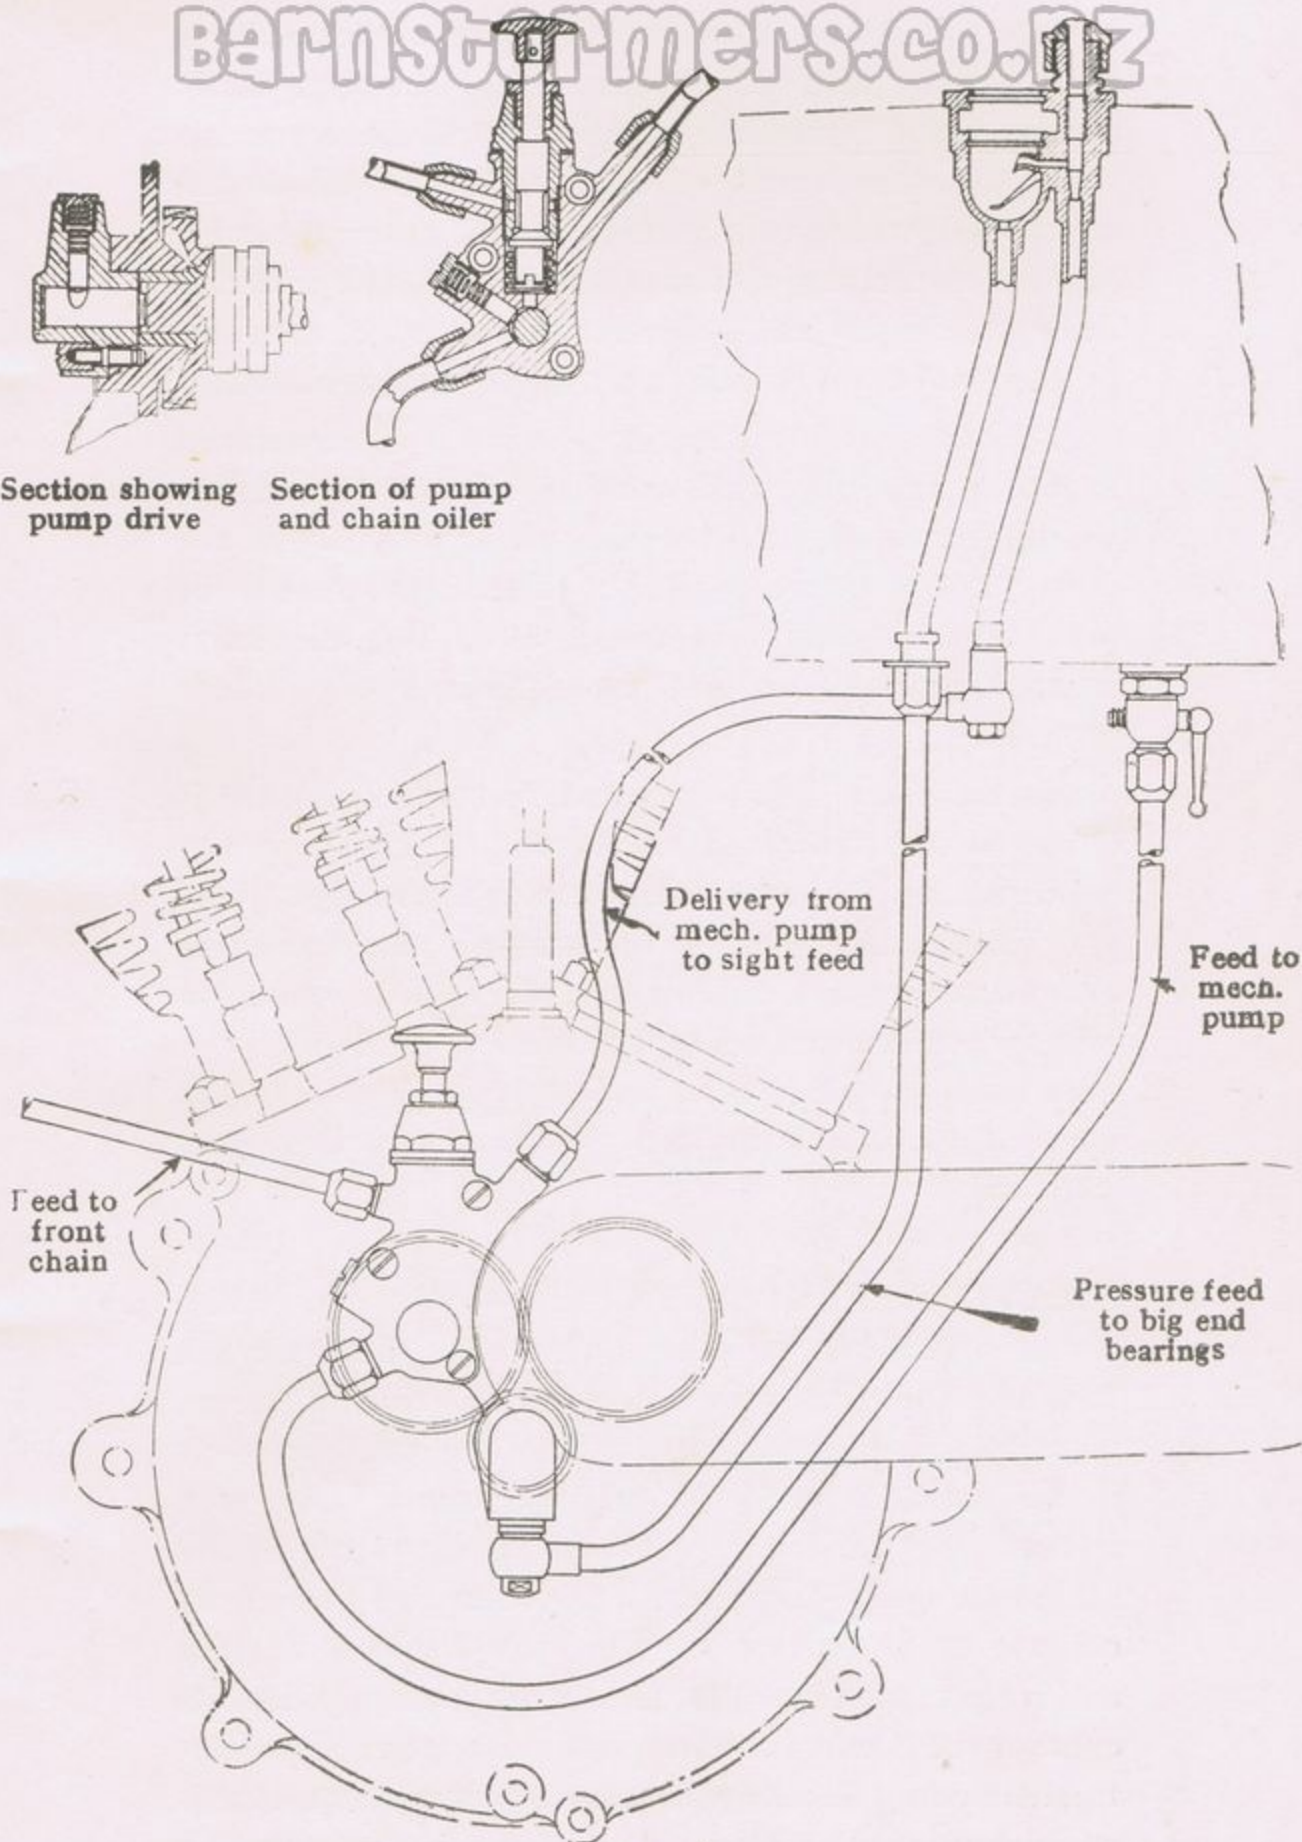

Fig. 4.
**GRAVITY FEED SYSTEM—1930 to 1933 (twin cylinder models).** The eccentric type oil pump is mounted on the timing cover and is driven from the inlet cam. The pump consists of a spindle having a groove formed round part of its circumference in to which falls a spring loaded plunger, which forces the oil along a pipe up to the sight feed situated on the tank and thence to the engine. The lower end of the delivery pipe from sight feed to engine enters a distributor of special design situated on the crankcase between the cylinders and ensures an equal supply to both cylinders and pistons. On 1933 models only the delivery pipe from the sight feed supplies oil direct to the big-end as shown in Fig. 4.